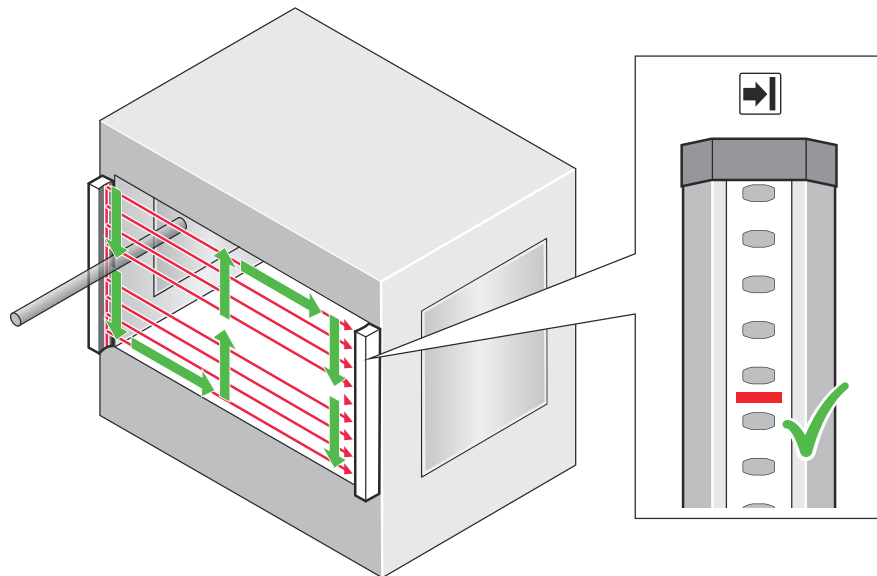

Figure 24: Test rod check: Step 1
1. Move the test rod slowly through the area to be protected (e.g., machine opening), as indicated by the arrow, see figure 24.